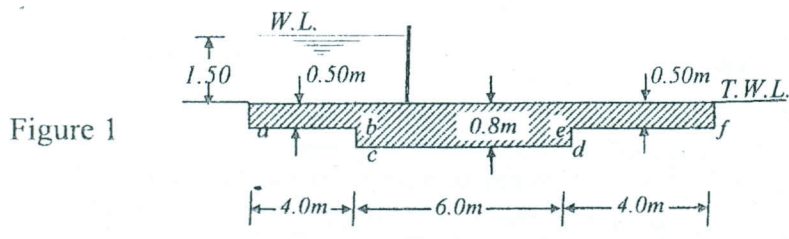
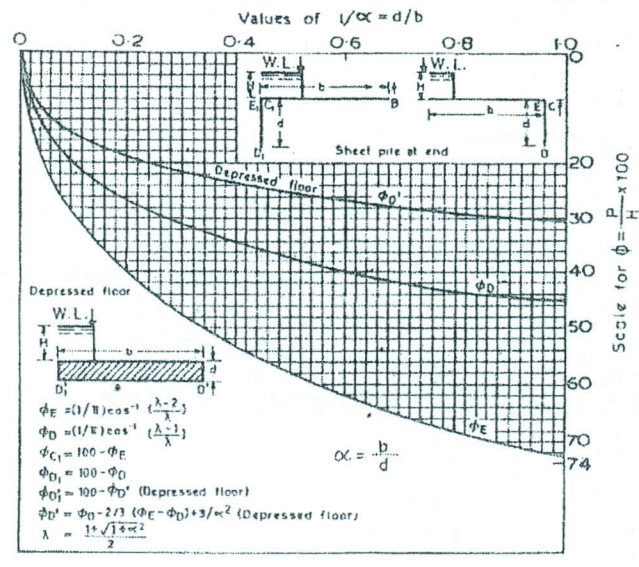

Figure 1
Figure 2
- C. Assuming a floor of hydraulic structure, as shown in Figure 1, storing 1.50 meter head of water. Use Khosla's pressure curves given in Figure 2 to draw the uplift pressure diagram. Estimate also the exit gradient. (5 marks)